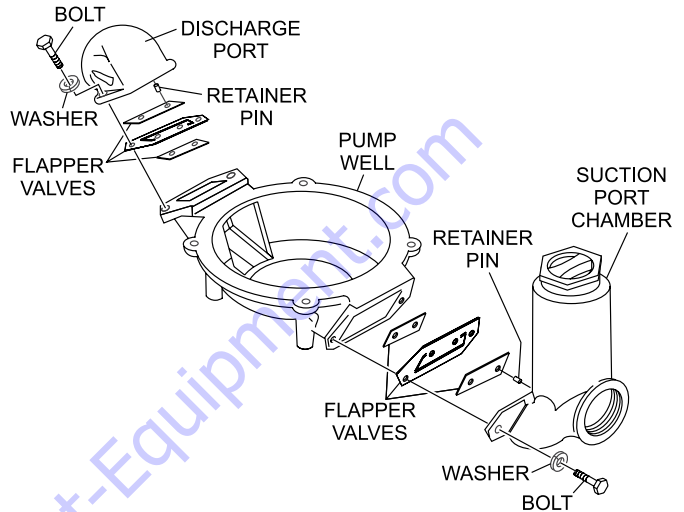

Figure 20. Flapper Valve Replacement
1. Remove the two bolts that secure the suction port chamber (Figure 20) to the pump well. Remove suction port chamber. Replace valves as required and reassemble.